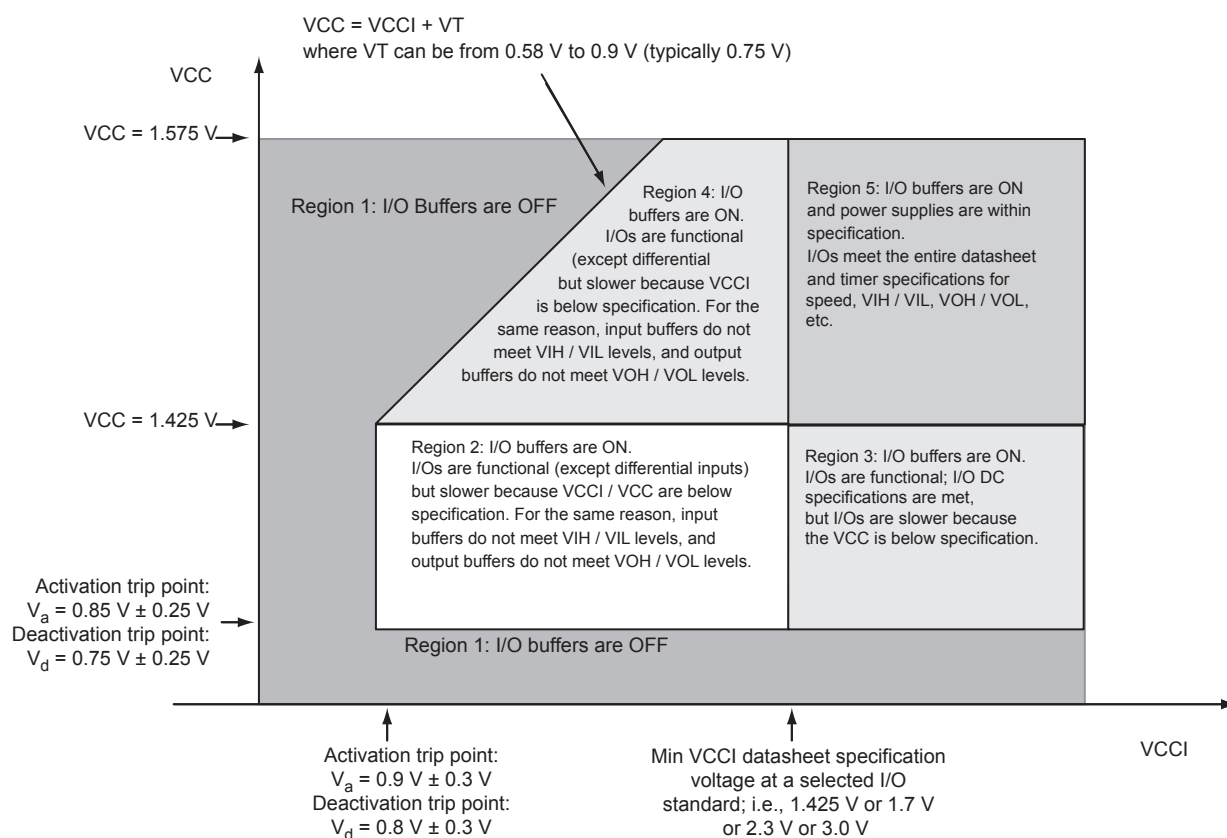

Figure 2-1 • I/O State as a Function of VCCI and VCC Voltage Levels
Sophisticated power-up management circuitry is designed into every ProASIC®3E device. These circuits ensure easy transition from the powered-off state to the powered-up state of the device. The many different supplies can power up in any sequence with minimized current spikes or surges. In addition, the I/O will be in a known state through the power-up sequence. The basic principle is shown in Figure 2-1 on page 2-4.
1. VCC and VCCI are above the minimum specified trip points (Figure 2-1 on page 2-4).
Microsemi recommends using monotonic power supplies or voltage regulators to ensure proper power-up behavior. Power ramp-up should be monotonic at least until VCC and VCCPLXL exceed brownout activation levels. The VCC activation level is specified as 1.1 V worst-case (see Figure 2-1 on page 2-4 for more details).